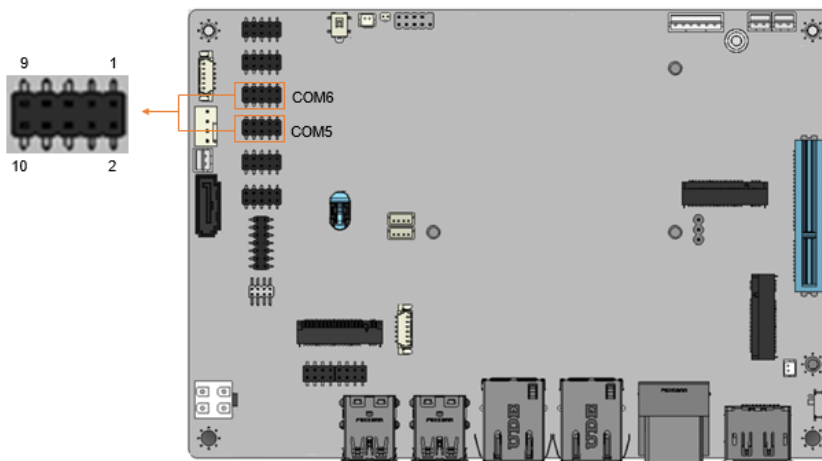

Figure 3-24: RS-232/422/485 Connector Locations
- CN Location:** See Figure 3-24